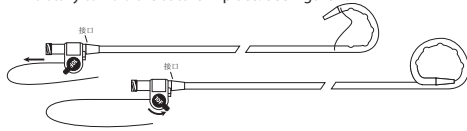

Figure 7
- To engage the suture locking mechanism: Pull the suture until desired pigtail is formed. Rotate the suture locking mechanism distally to hold the suture in place. See Figure 7.